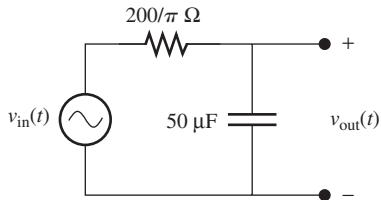

FIGURE P7.18 Circuit for Problem 7.18.
- 7.18 (B)** Sketch the magnitude plot of the transfer function for the circuit shown in Figure P7.18.